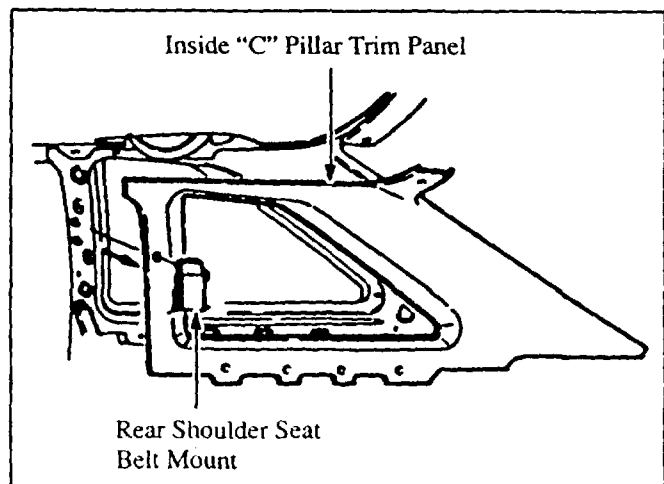

Figure 24: Removing Inside "C" Pillar Trim Panel
3. If necessary, remove the rear shoulder seat belt mounts and inside "C" pillar trim panel(s). Remove the mounting nuts. Next, remove the rear window glass side molding. Figures 24 and 25.